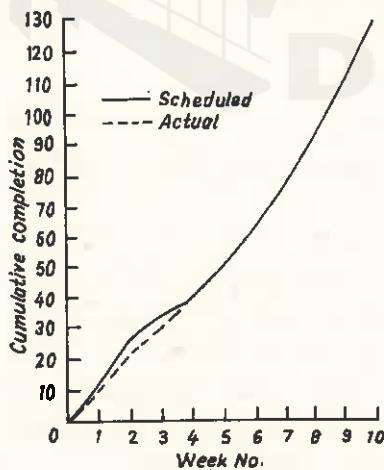
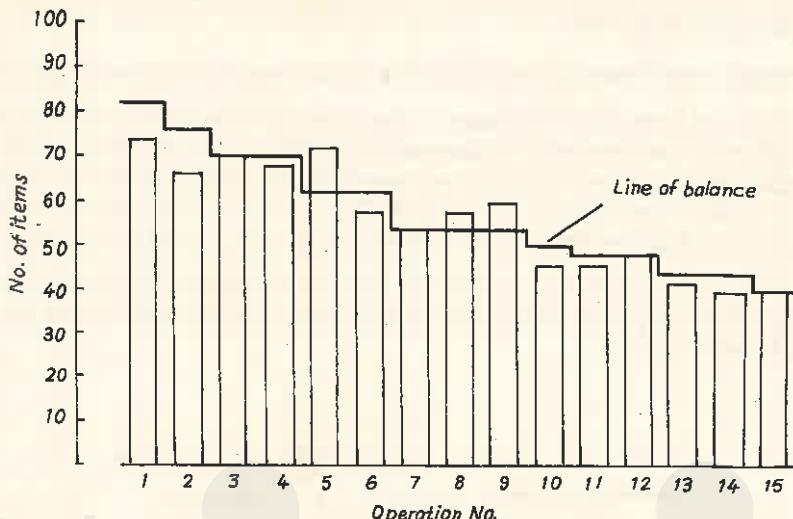

Fig. 7.33. Objective chart.
Fig. 7.35. Progress chart.
- (1) **Objective Chart**
- The objective chart (Fig. 7.33) shows the expected schedule of products (*i.e.* scheduled deliveries) and the actual completion rate (*i.e.*, actual deliveries made by a date).
- *Objective chart* and *Program plan* are prerequisites for use of the LOB technique. They need to be constructed only once for any job, unlike the following documents i.e. (3) & (4) which must be constructed each time the schedule and progress is examined.
(3) Progress chart
- Suppose, for example, the review date is week No. 4 (Fig. 7.33), by which, according to objective chart, 40 items should have been completed i.e. 40 items should have passed operation 15 (Fig. 7.35) of the program plan. The number of items that have completed this and each of the other operations can be obtained simply by checking inventory levels.
(4) Line-of-Balance
- Since the object of the exercise is to compare *actual progress* with *scheduled progress*, the information given in progress chart (Fig. 7.35) must be compared to required progress. This is done by constructing a *line* on the progress chart which shows the requisite number of items which should have been finished at each operation at the time of review.
(5) Analysis of Progress
- In comparing required progress with actual progress it is again convenient to work backwards, beginning with the last operation (15). From Fig. 7.35(progress chart) it is clear that the requisite number of completed items have been delivered to the customer (operation 15=40), a fact which is reflected by the actual performance line on the objective chart.